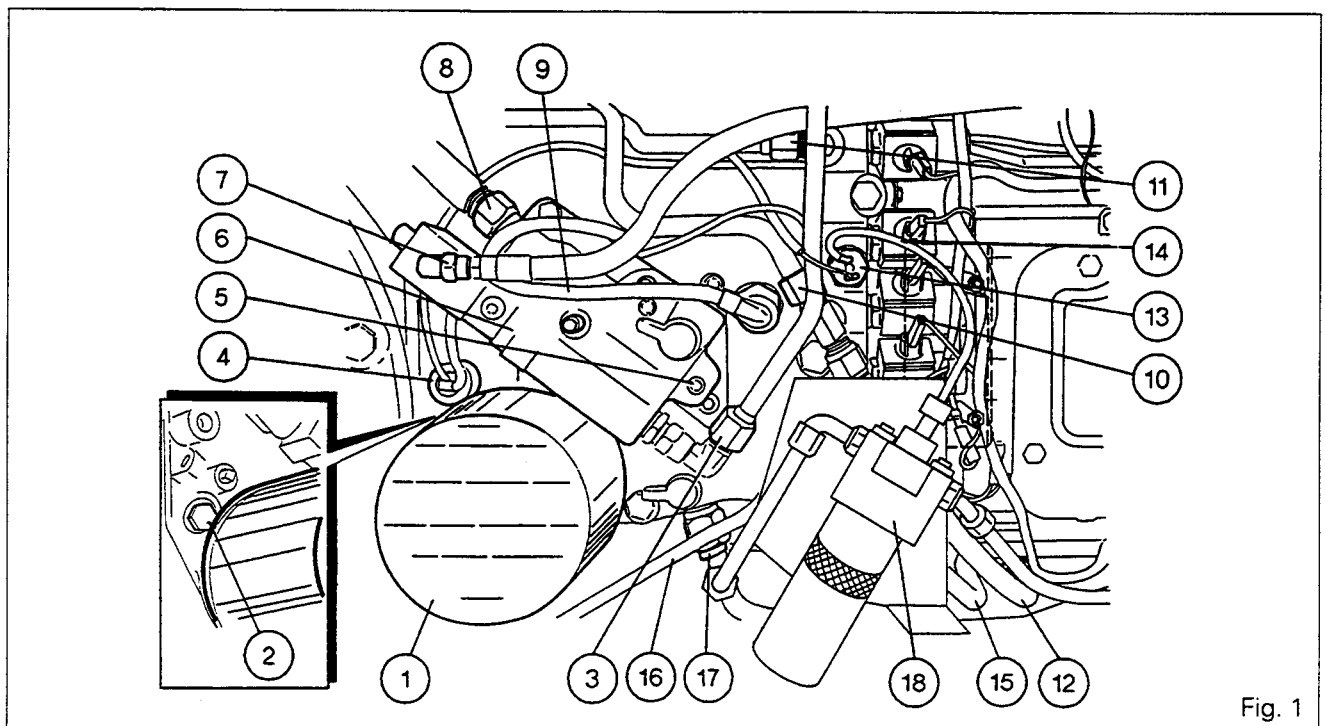

Fig. 1
**For operations 2 to 12 refer to Fig. 1.**
21. Refit the cover and screws **(2)** (Fig. 1).
25. Refit valve **(6)** (if fitted) (Fig. 1).
26. Refit the screws **(5)** (Fig. 1) and tighten them to a torque of 25-35 Nm.